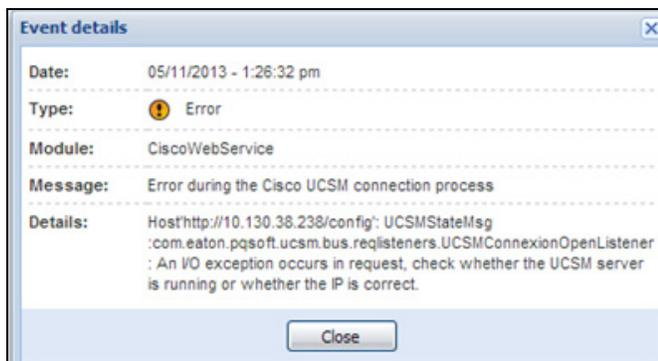

Figure 151. UCS Manager Not Found
3. IPM can't find a UCSM on the IP provided (see Figure 151).